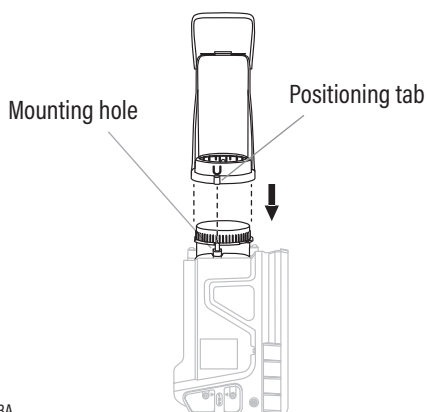

Fig. 3A
1. Locate and align the positioning tab on the discharge chute with the mounting hole on the chute base. (Fig. 3A)
2. Rotate the chute until the positioning tab aligns with the mounting hole. (Fig. 3A)